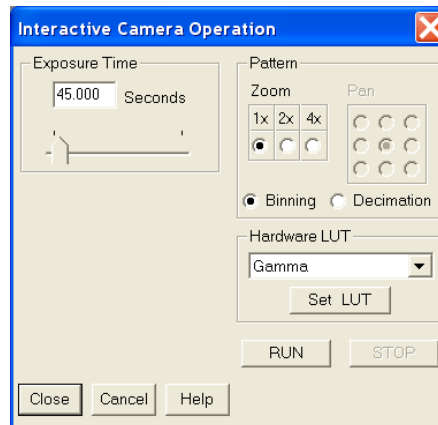

Figure 46. ST-133
2. Select **Video Focus** from the **Acquisition** menu. The **Interactive Camera** dialog (Figure 46) will open.